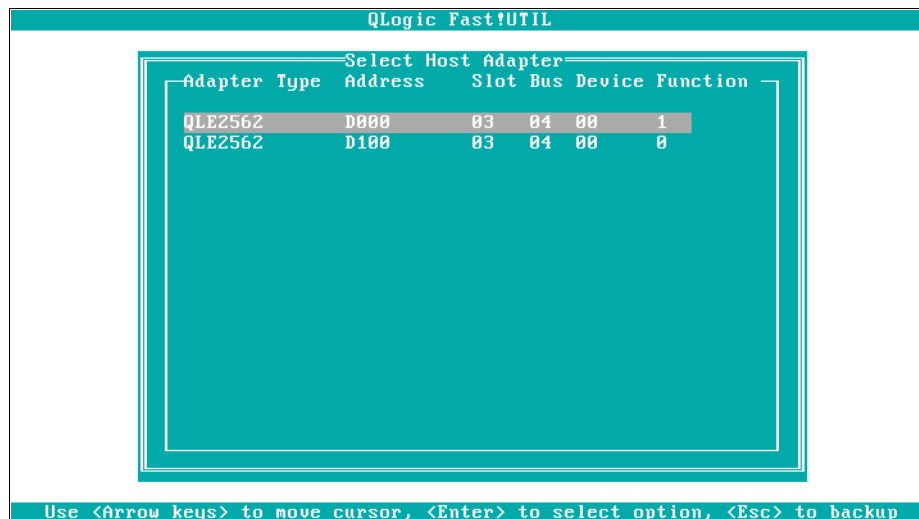

Figure 2-15 Select FC adapter
2. Select the first Fibre Channel adapter, as shown in Figure 2-15.